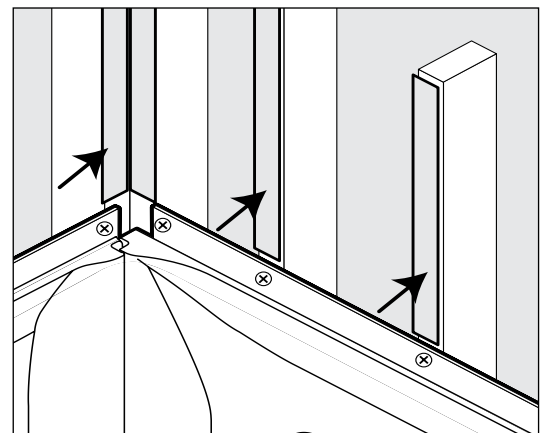

FIGURE 10. Shim studs.
- Shim studs with lattice strips or 1/4" luan so that finishing board will overlap nail flanges. If your wall extends past the shown alcove, it may be necessary to shim these studs. (Fig. 10)